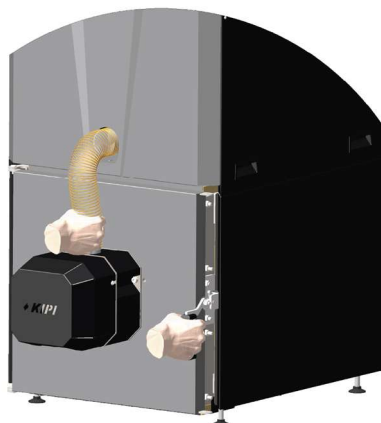

Figure 30 - Checking the installation of the spiro pipe and tightness of the boiler door
- Check if the pellet spiral is properly fastened and the boiler door is tightly closed (Figure 30)